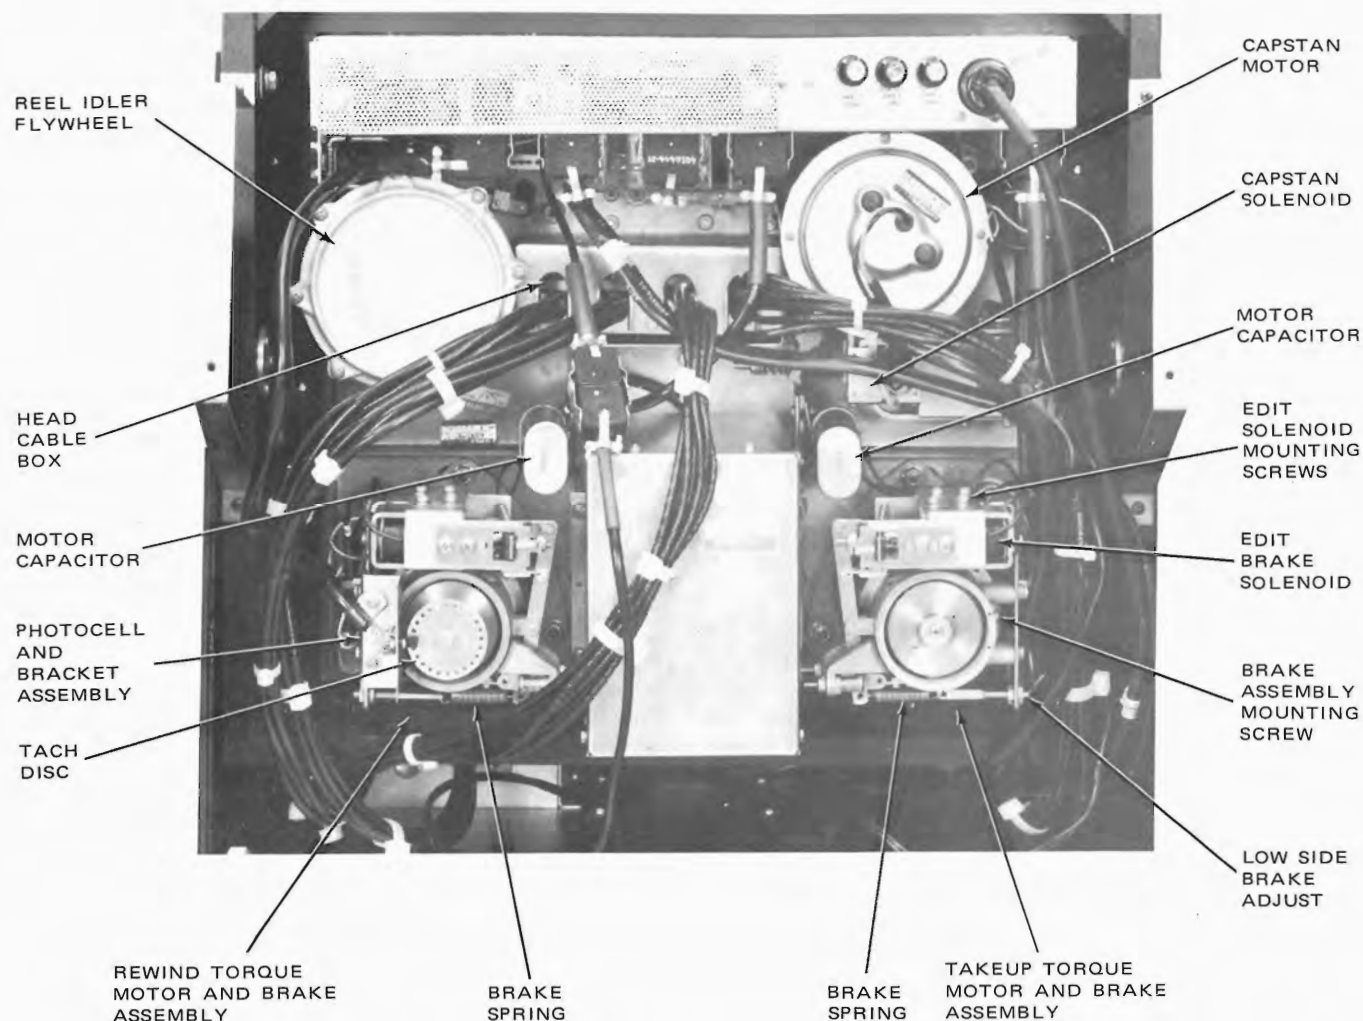
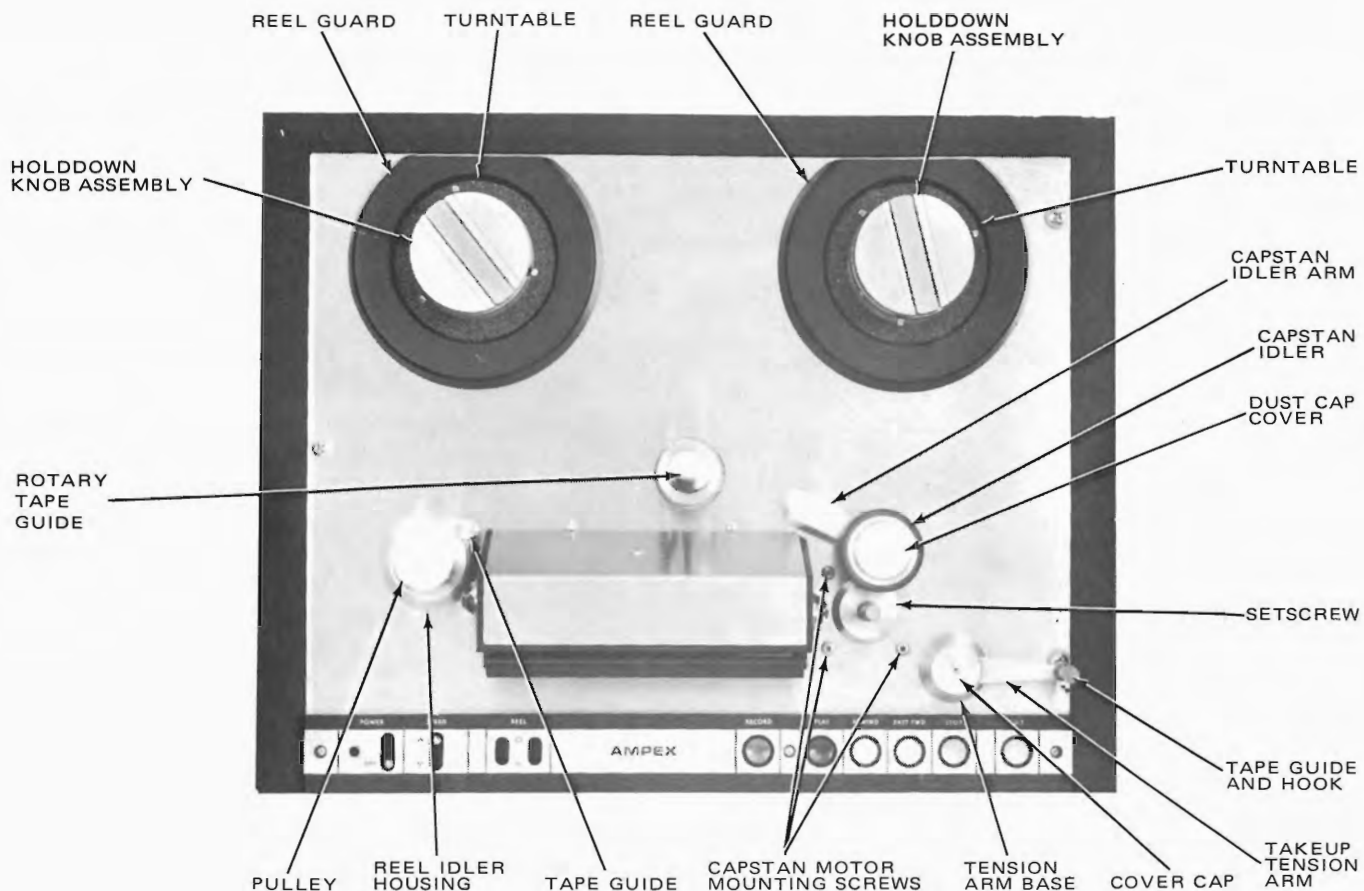

Figure 5-15. Tape Transport Components (Bottom View)
Figure 5-16. Tape Transport Components (Top View)
Major components in the takeup and rewind assemblies (Figure 5-15) are the torque motor and
**Replacing Takeup or Rewind Assembly.** The takeup and rewind assemblies are each secured, through slotted holes in the top plate, to the reel guards. When either assembly is removed, the reel guard (Figure 5-16) will also be released.
To remove either assembly (Figure 5-15), disconnect the connector from the tape transport, slide the plastic sleeving from the capacitor solderless connectors and disconnect them. Manually support the assembly, and remove the three mounting nuts and washers (Figure 5-17).
3. If the brake is being removed from a rewind assembly remove the photocell and bracket assembly (Figure 5-15). Loosen the two screws that hold the photocell mounting bracket to the solenoid bracket to expose the third brake assembly mounting screw.
1. Remove the brake spring (Figure 5-15).
To remove the edit brake solenoid (the solenoid farthest from the motor) remove the two screws and washers (Figure 5-15); the solenoid plunger will slide partly out. If the plunger must be removed, remove the self-locking nut (edit brake adjustment) and the spring beneath it (Figure 5-5), and slide the spade bolt out through the hole in the edit-solenoid stop-plate. Remove the plunger from the spade bolt by removing the cotter pin and clevis pin.
4. Loosen the two screws holding the photocell/bracket assembly (Figure 5-15) to the photocell bracket and adjust this assembly with respect to the tach disk holes to give a maximum ac reading on the vtvm or oscilloscope. The maximum voltage should be between 2-1/2 and 8 volts rms. Tighten the mounting screws.
3. Check the low side braking tension with a NAB reel, twine and a spring scale. The tension should be 5 to 6 ounces with clockwise direction of the rewind turntable and counter-clockwise direction of the takeup turntable. If the tension is incorrect, adjust the low side spring tension with the low side adjusting nuts (Figure 5-15).
To remove the takeup or rewind motor capacitor (Figure 5-15) slide the plastic sleeving from the solderless connectors on the capacitor leads, and disconnect the wires. Loosen the two screws on the mounting plate and slide the capacitor and plate from the casting. Remove the mounting plate and use the removed screws, nuts, and washers to secure the new capacitor on the plate (do not tighten the screws). Slide the capacitor and plate into position, then tighten the screws and reconnect the leads.
2. Remove the capstan dust cap cover from the capstan motor by loosening the setscrew (Figure 5-16). Push the capstan idler back so the metal dust cap cover can be lifted off.
**Pulley Replacement.** The pulley (Figure 5-16) is held in the reel idler housing by the reel idler flywheel (Figure 5-15) which is secured to the pulley shaft by a setscrew. The setscrew is in the side of the flywheel toward the transport, and must be found by touch. Rotate the flywheel so the flat portion of the shaft is toward the outer edge of the rewind motor. Insert a 3/32 Allen wrench (with a handle and long-shaft) past the outer edge of the rewind motor, and then into the setscrew hole by touch. If the transport is face down, manually support the reel idler pulley while loosening the setscrew and removing the flywheel, then slide the pulley and pulley shaft out of the housing.
**Reel Idler Assembly Replacement.** To remove the complete reel idler assembly, remove the pulley (Figure 5-16). Remove the two screws that
secure the reel idler assembly to the casting (Figure 5-15), and remove the idler assembly from the transport.
**Arm Spring Adjustment.** The only time the spring requires adjustment is when the arm is removed from the housing (Figure 5-16) for some reason. Remove the cover cap from the tension
**Tape Guide and Hook Replacement.** Remove the tape guide and hook (Figure 5-16) from the takeup tension arm by removing the screw under the tension arm.
**Non-Removable Parts.** The capstan idler arm (Figure 5-16) and associated components cannot be removed from the transport, because the solenoid idler arm (Figure 5-19) is secured to the idler arm shaft by a press fit rollpin. Removing and installing this rollpin requires special tools. The solenoid idler arm will not pass through the hole in the transport so parts between the capstan idler arm and the solenoid idler arm cannot normally be removed. If any of these parts should ever require replacement, the transport should be returned to the factory for repair.
**Idler Assembly Replacement.** The rubber-tired idler assembly is held on the capstan idler arm (Figure 5-16) by a setscrew. To remove the idler assembly, loosen the setscrew and slide the idler shaft from the idler arm. Install the new idler assembly, so that the tape is centered on the idler.